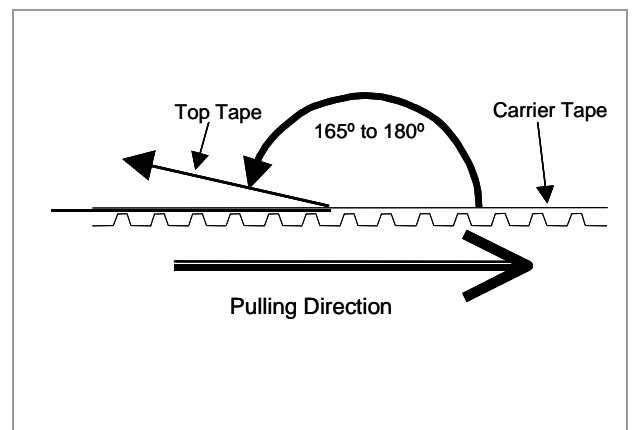

Fig.9 Peeling Strength
- The power peeling top tape from carrier one shall be 0.1N {10gf} to 0.7N {70gf}. "Fig.9"